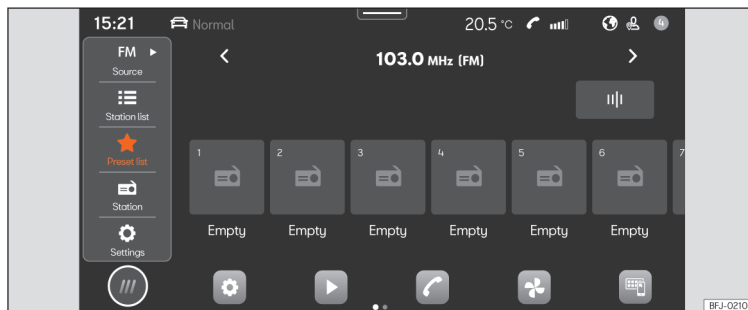

Fig. 150 Schematic representation: Radio view
- Press **HOME** > >>> Fig. 150.